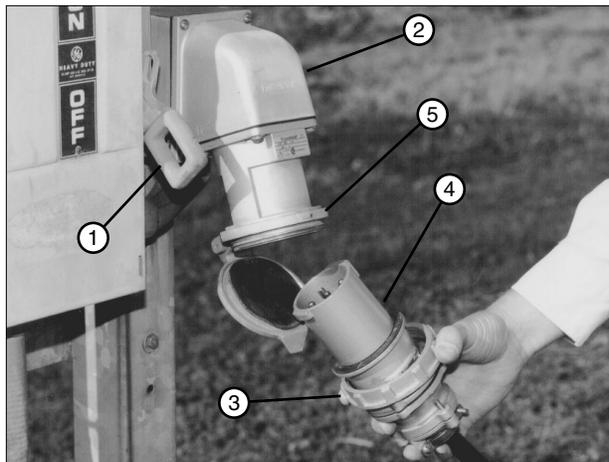

Figure 74-1 1. Disconnect Switch 2. Power Pedestal 3. Plug Cap Collar 4. Plug 5. Receptacle
- Turn the power pedestal disconnect switch to the OFF position. See Figure 74-1.
- Remove plug cap from electric cord plug, and insert the electric cord plug into the power pedestal receptacle. See Figure 74-1.